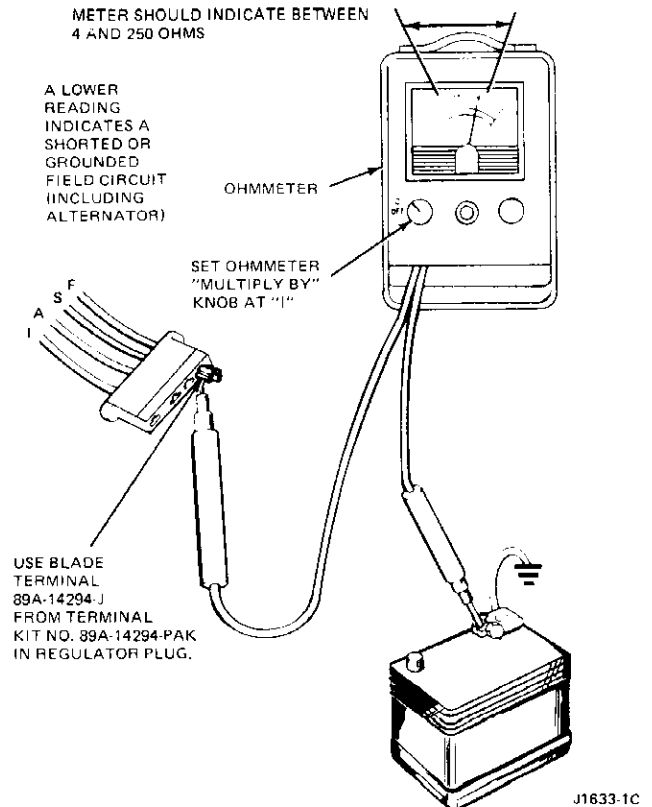

FIG. 2 Field Circuit Test
1. If the voltmeter does not indicate more than 1/2 volt above base voltage. Disconnect wiring plug from regulator and connect an ohmmeter from "F" terminal of plug to ground. Meter should indicate more than 3 ohms. If less than 3 ohms is indicated repair grounded field circuit and repeat Load Test. Refer to Fig. 2.